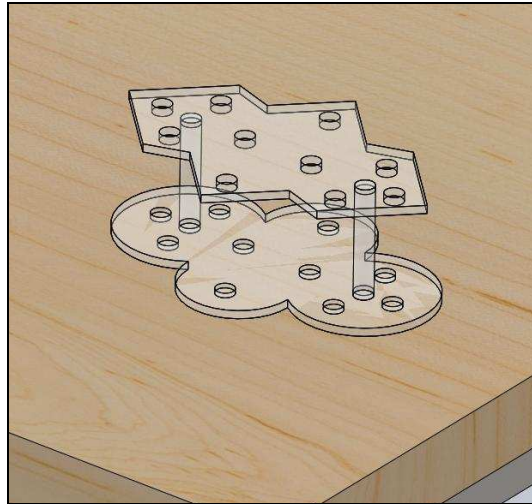

Figure 14: Dry fitting the pieces together before gluing
A. If the pieces do not fit, make adjustments so the pieces fit nicely. Refer to Figure 14.